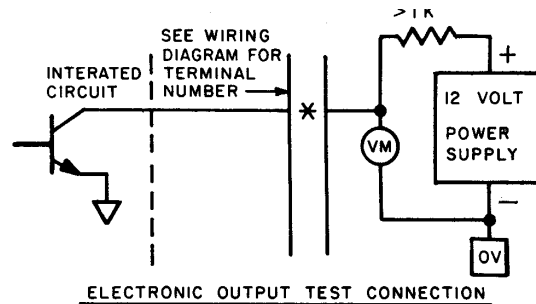

FIG. 9
5.3.12 To test electronic outputs, connect a voltmeter from the proper output terminal to OV, and connect a pull-up resistor, 1K or larger from the same terminal to a 12V supply. (see figure 9). The negative of the external supply must be connected to the system OV terminal. The meter will read 12 volts in normal and approximately one volt when the point is in alarm. Check for proper operation according to its operational Mode.